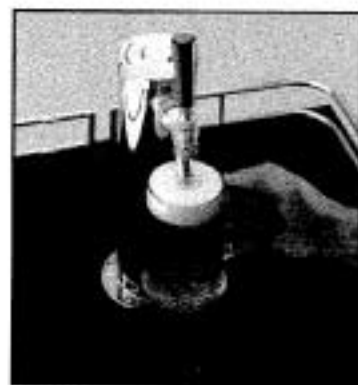

Fig. 14
4. Level the glass and finish topping off by continuing the pour in the center of the glass. (as shown in Fig. 14)